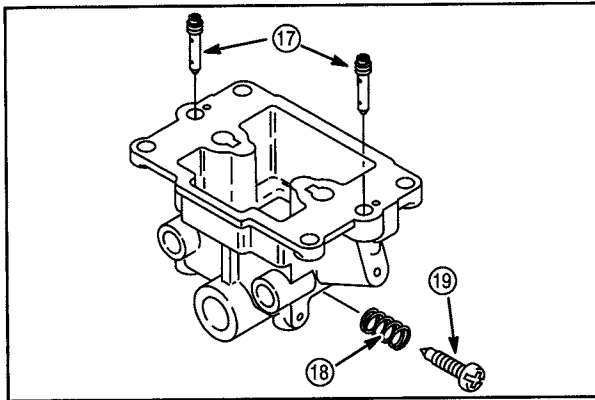

Fig. 72
10. Install pilot jets (17), **Fig. 72**.
11. Install fuel bowl drain screw (19) and spring (18).